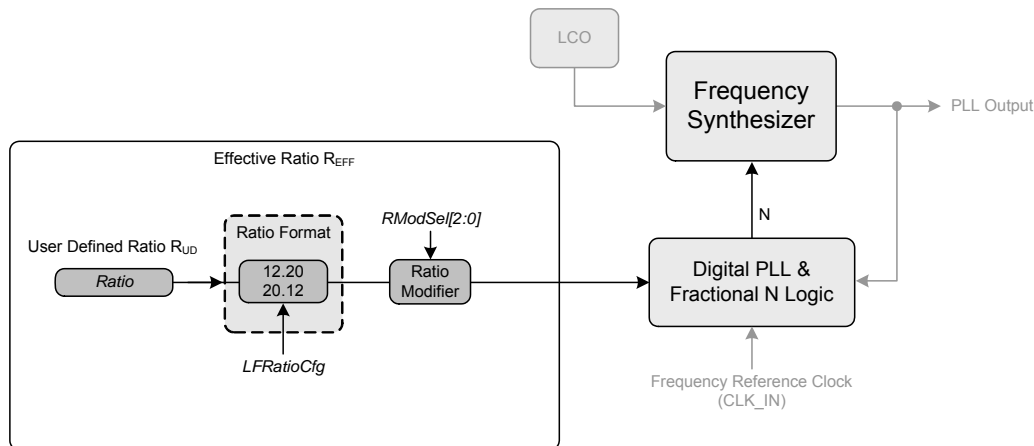

Figure 15. Ratio Feature Summary
The R_{UD} is the user defined ratio stored in the register space. The resolution for the R_{UD} is selectable by setting *LFRatioCfg*. R-Mod is applied if selected. The user defined ratio, and ratio modifier make up the effective ratio R_{EFF} , the final calculation used to determine the output to input clock ratio. The conceptual diagram in Figure 15 summarizes the features involved in the calculation of the ratio values used to generate the fractional-N value which controls the Frequency Synthesizer.
- Changes made to the registers which affect the Fraction-N value that is used by the Frequency Synthesizer. This includes all the bits shown in Figure 15 on page 18.